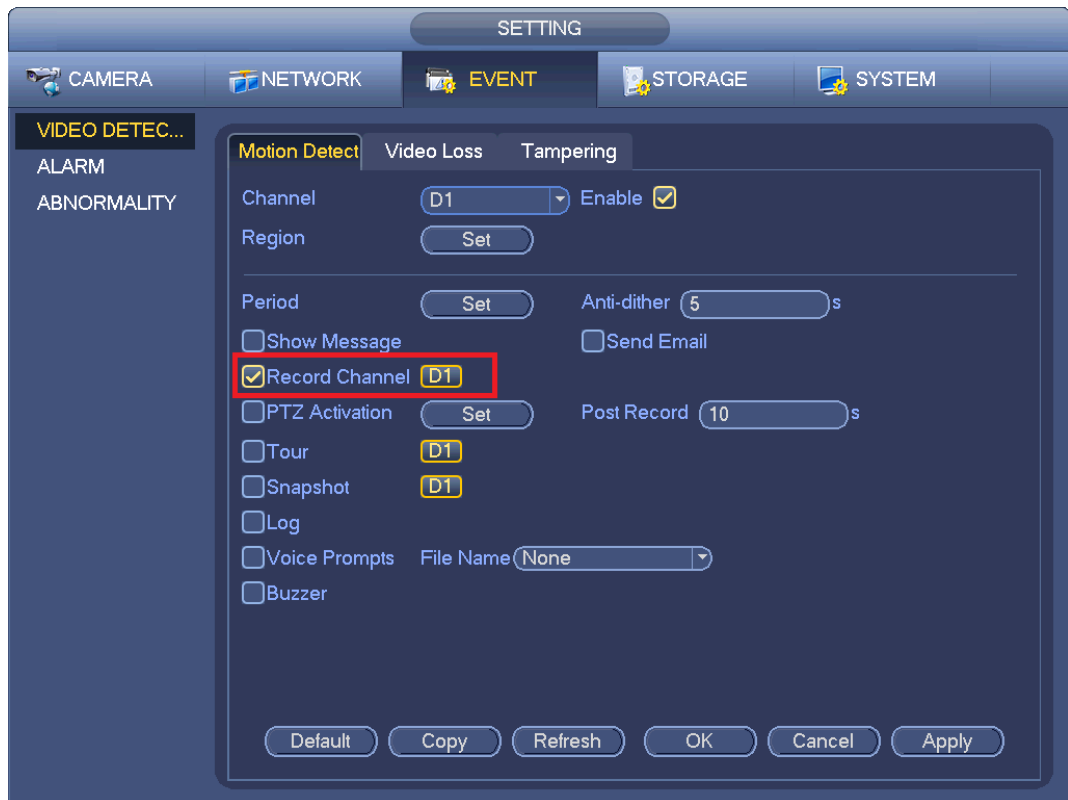

Figure 4-27
- When the record type is MD (motion detect), alarm, MD&Alarm, please enable the channel record function when corresponding alarm occurs. For example, when the alarm type is MD, from main menu->Setting->Event->Video Detect->Motion Detect, please select the record channel and enable record function. See Figure 4-27.